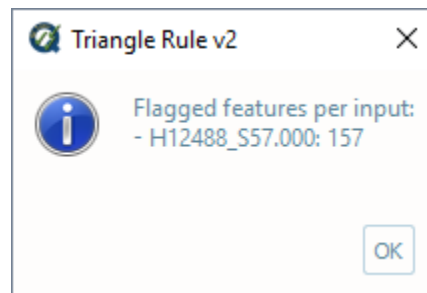

Fig. 2.42: Triangle rule's output message.
- After executing, the output window opens automatically, and the results are shown by textbox (Fig. 2.42).